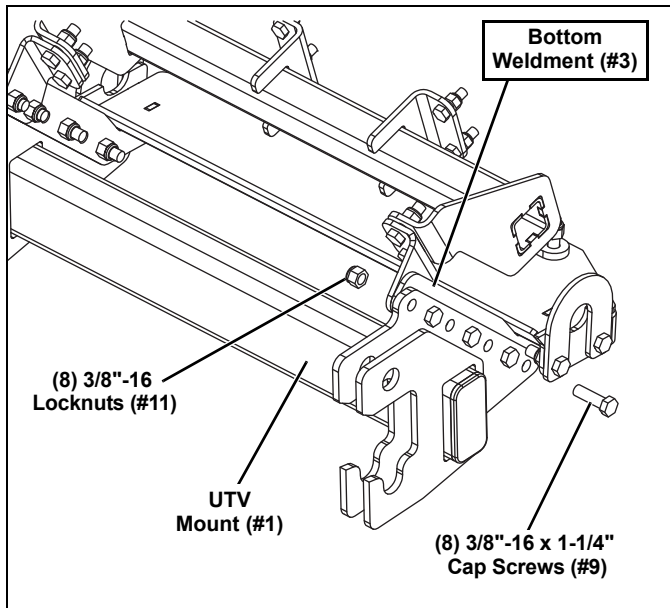

Figure 9
11. Insert (8) 3/8"-16 x 1-1/4" Cap Screws (#9) into the UTV Mount (#1) and through the Bottom Weldment (#3). Secure with (8) 3/8"-16 Locknuts (#11) (See Figure 9).